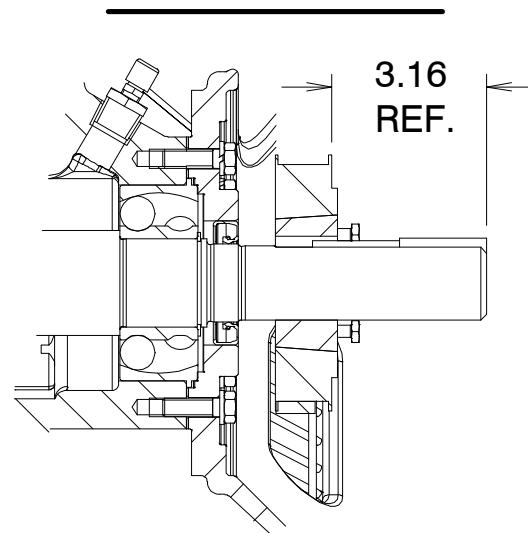

Figure 9. Drive Sprocket Positioning
Install the key (30, Figure 4) in the shaft keyway, making sure to leave room in the keyway for the drive key (31, Figure 4). Install the bushing (20) and sprocket (21) on the shaft to the dimension shown in Figure 9.
*When properly installed to the dimension shown in Figure 9, the key (30, Figure 4) **will not** extend fully through the bushing. This is an acceptable fit for this application.*